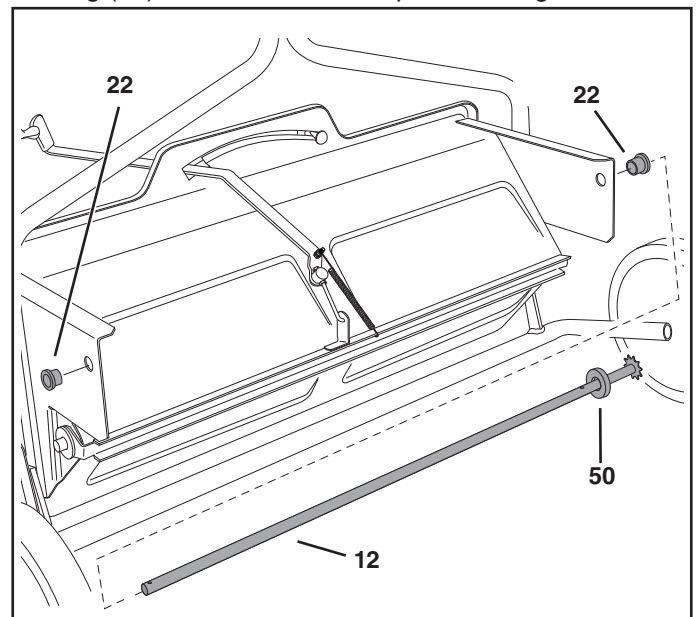

FIGURE 13
- Press flanged bearings (22) into both of the end plates. See figure 13.
- **Place the 1/4" thick spacer (50) onto the spike disk shaft (12) and then insert the shaft through the flanged bearing (22) in the left hand end plate.** See figure 13.